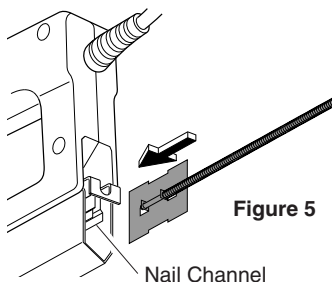

Figure 5
- Replace nail pusher into nail chamber. Do this by inserting flat metal end of nail pusher into nail channel (see Figure 5). Fully push nail pusher into nail chamber. Push hook end of nail pusher up and latch it to nail chamber.